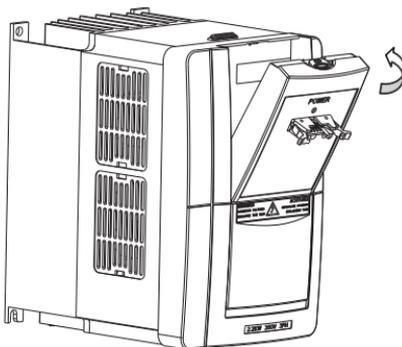

Fig. 3-9 Mounting Demonstration of the operator panel and connecting wire of the inverter Model A
Step 2. Plug the connection wire on the interface board provided in the optional spare parts . install at the keypad's position . (as shown in Figure 3-9)